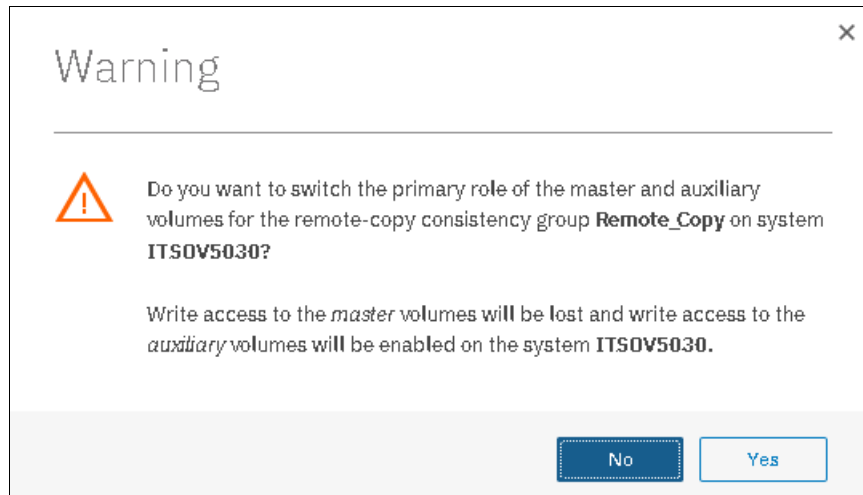

Figure 10-115 Warning window before switching the relationship
- The warning window that is shown in Figure 10-115 opens. In the example, the Consistency Group is switched from the master group to the auxiliary group. Click **Yes**.